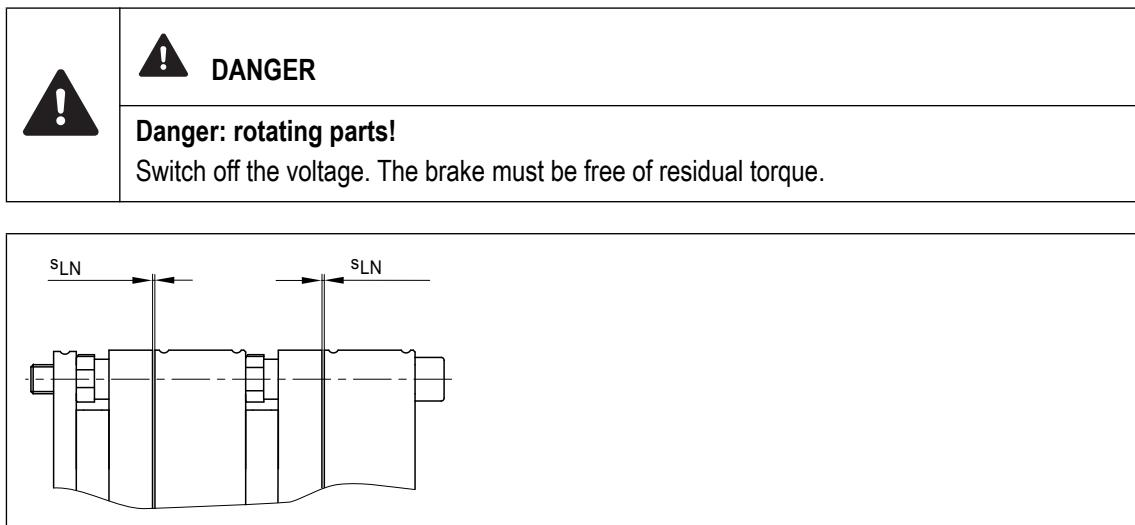

Fig. 11 Check the air gap
12. Check the air gap using a feeler gauge and correct it if necessary ($s_{LN} = 0.4 +0.05 \text{ mm}$) according to Figures 11 and 12.